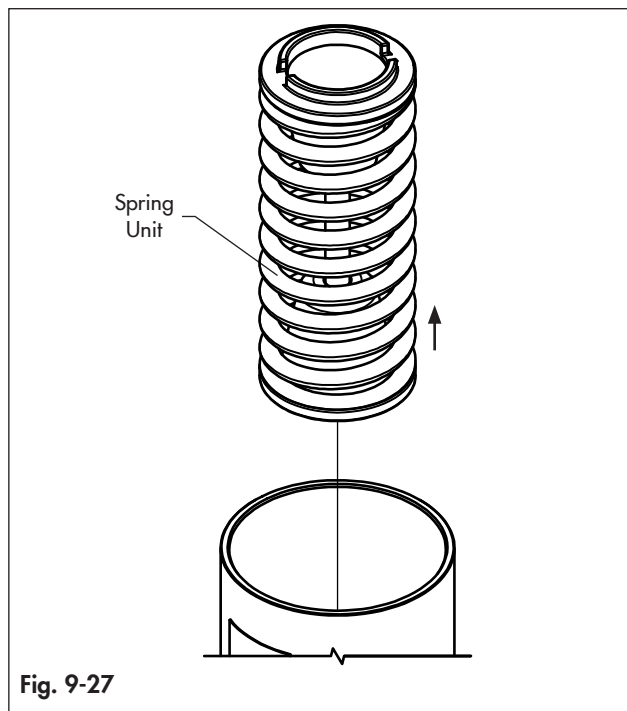

Fig. 9-27
- Remove the preloaded spring unit Fig 9-27.